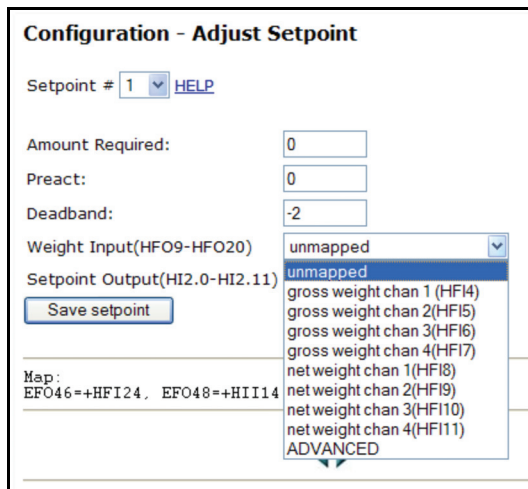

FIG. 3-20 ADJUST SETPOINT PAGE/SELECTING WEIGHT INPUT
- Click on the pull down menu next to Weight Input (HFO9 - HFO20). (See Fig. 3-20)